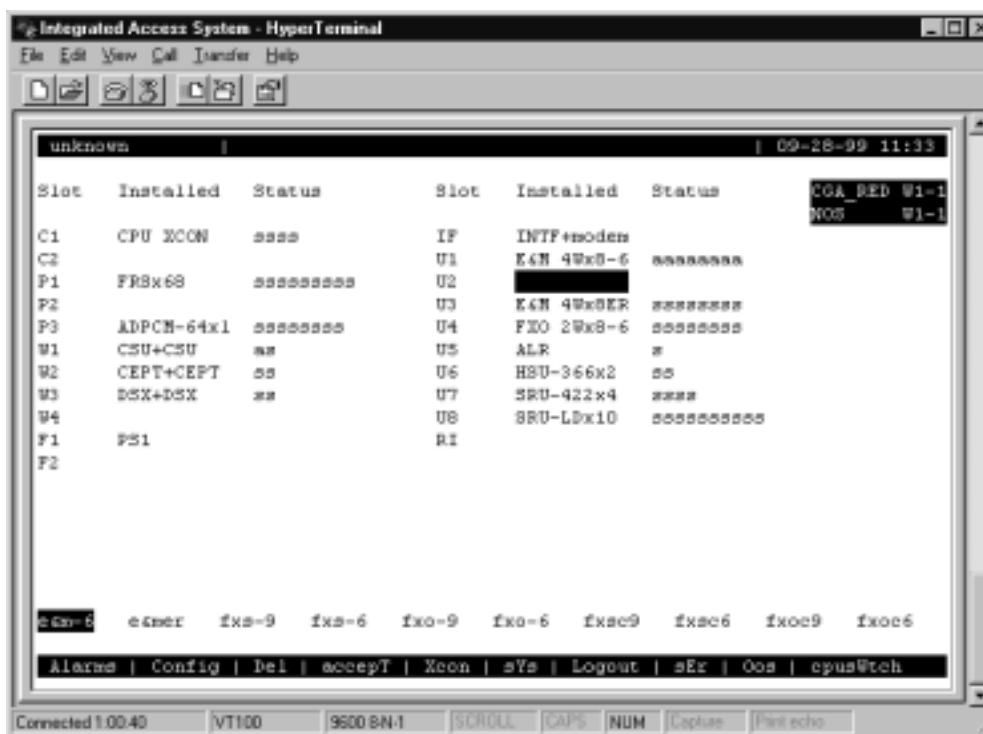

Figure 5-43. Typical Card Slot and Type Selection
2. Place the cursor on the first user card slot that will have a card. In Figure 5-43, slots U5 through U8 will be assigned to 30 time slots on the E1 WAN port.
4. Select the type of voice card from the types listed above the bottom line of the screen, as shown in Figure 5-43. In that screen, **e&m-6** is chosen as the card type (E&M, 600 ohms).